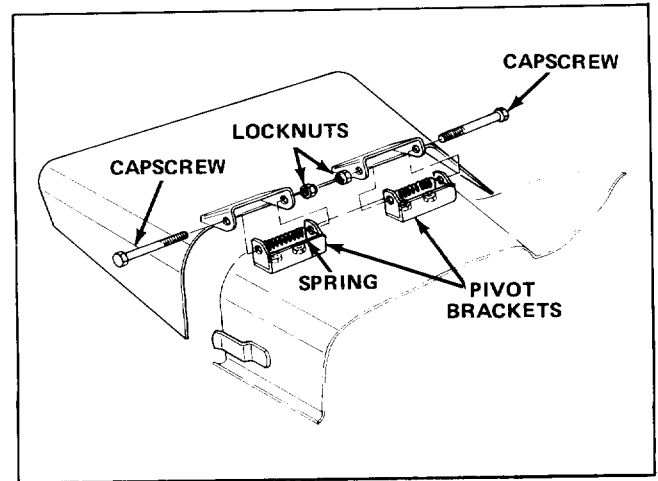

Figure 28
2. Remove two capscrews, locknuts and springs securing deflector mounts to pivot brackets (Fig. 28).
3. To remove the pivot brackets, remove carriage bolts and nuts (Fig. 28).